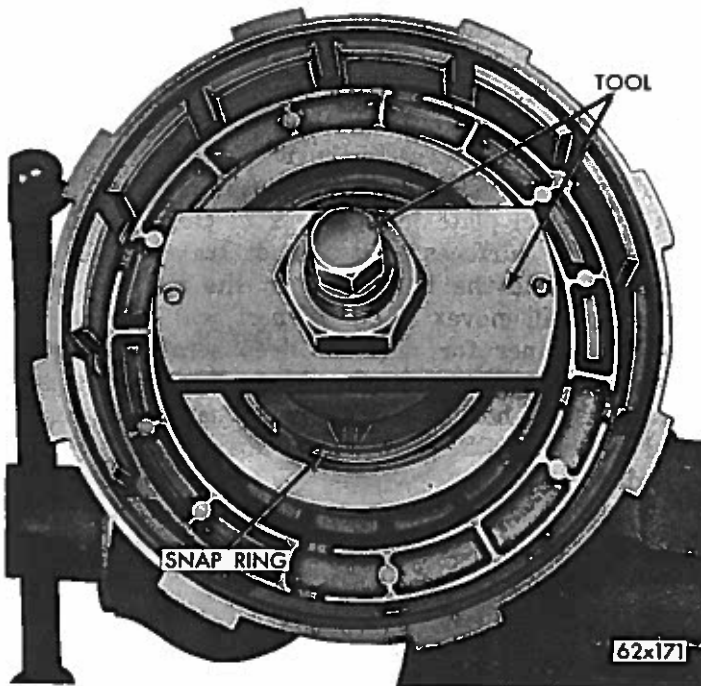
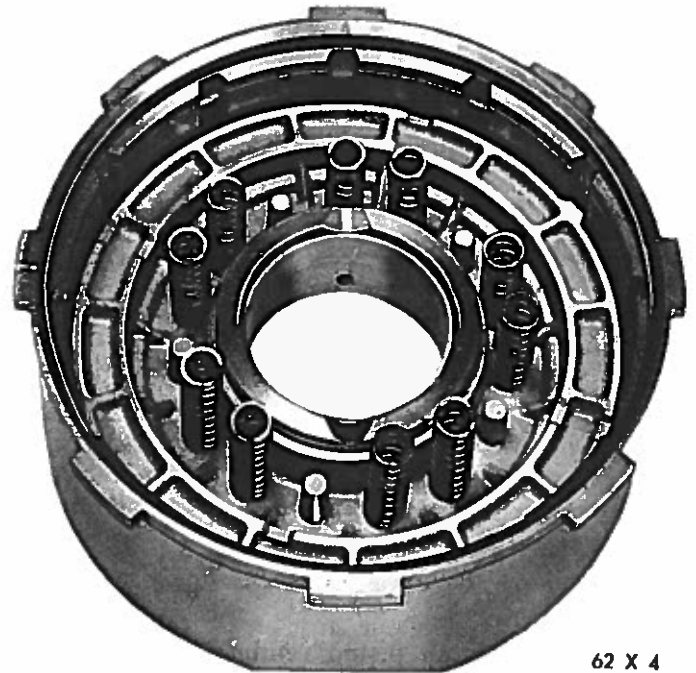

Fig. 60—Removing or Installing Front Clutch Spring Retainer Snap Ring (Tool C-3863)
Fig. 61—Front Clutch Piston Return Spring—Location
(1) Using a screw driver, remove large snap ring that secures the pressure plate in clutch piston retainer. Lift the pressure plate and clutch plates out of the retainer.
(2) Install compressor, Tool C-3860 over piston spring retainer as shown in Figure 60. Compress springs and remove snap ring, then slowly release tool until spring retainer is free of the hub. Remove the tool, retainer and springs.
(3) Invert clutch retainer assembly and bump on a wood block to remove the piston. Remove seals from the piston and clutch retainer hub.
as shown in Figure 61. Position the spring retainer and snap ring on the springs. Compress springs with Tool C-3863 (Fig. 60), and seat snap ring in the hub groove. Remove compressor tool.